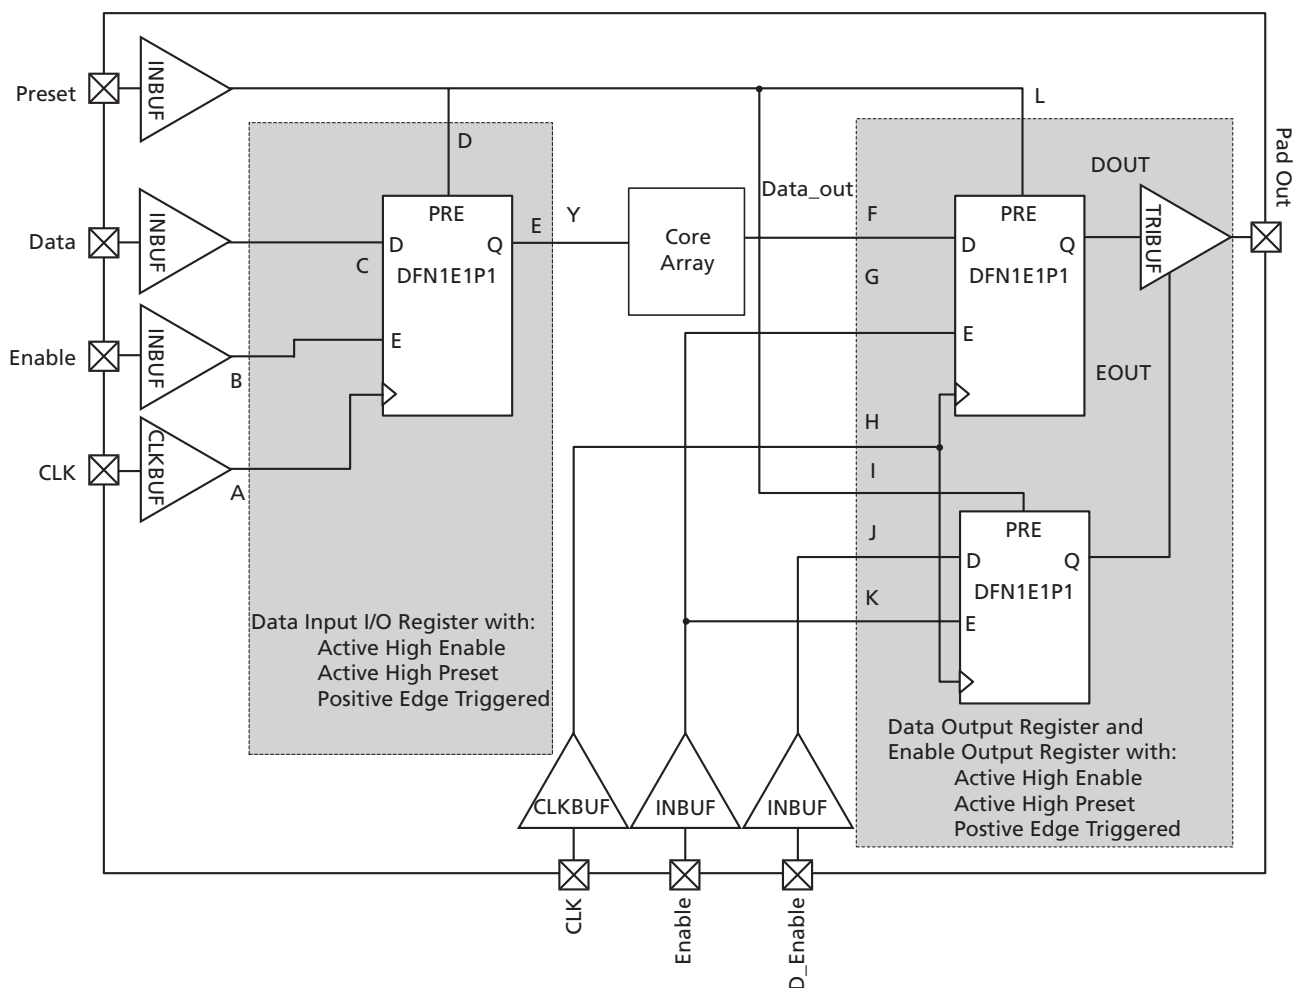

Figure 3-24 • Timing Model of Registered I/O Buffers with Synchronous Enable and Asynchronous Preset
**Note:** \*See Figure 3-24 on page 3-49 for more information.